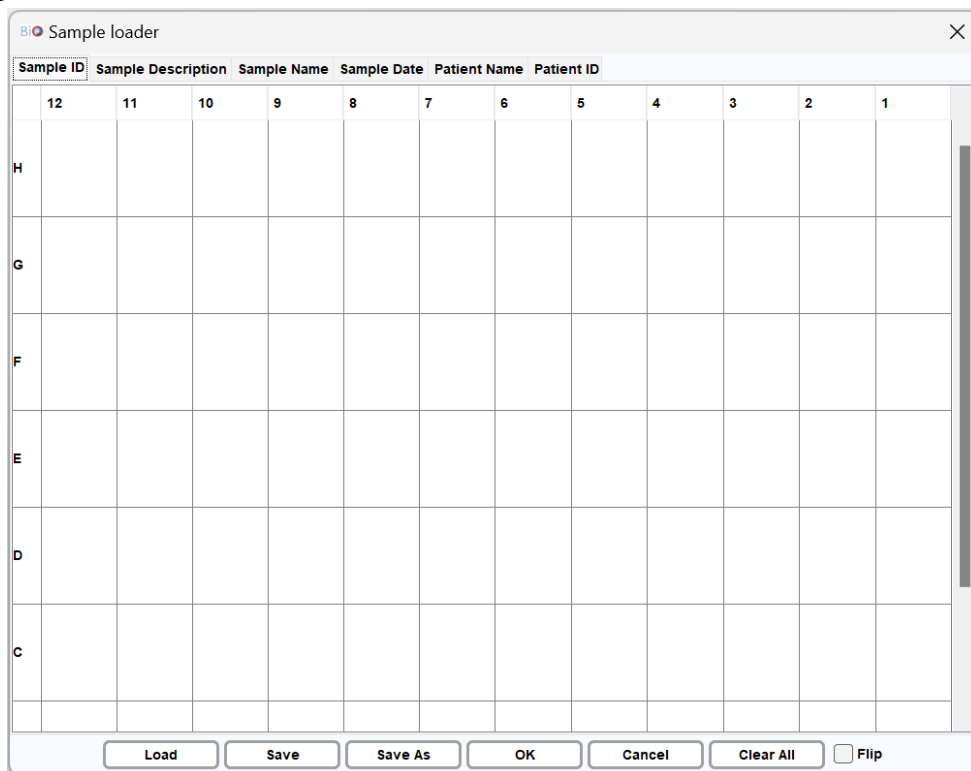

Figure 21 Sample Loader Window
Notes for samples can be edited on the Sample Loader window (Figure 21). After clicking on **Edit**, the Sample Loader window will appear on the screen. Use the **Load** button to enter multiple sample descriptions, the **Clear All** button to delete all sample information, and the **Save** button to save the edited sample information. After entering the required information such as time and serial number, click **OK** to start the process.
***Note:** The information of the samples in the excel sheet must follow the sequence shown in Figure 21. An example file can be found in the installation directory. The default workspace is C:\Users\\Q-Analyzer\Sample.